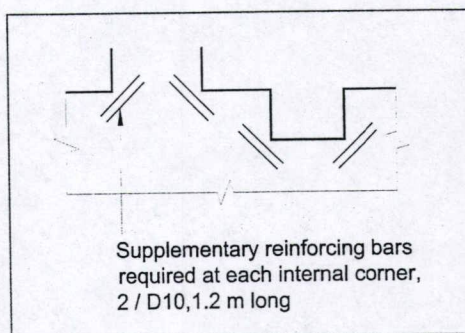

Figure 7.17 – Irregular slab (plan view) (see 7.5.8.6.2)
- (c) Supplementary steel placed as shown in figure 7.17 but not across shrinkage control joints.